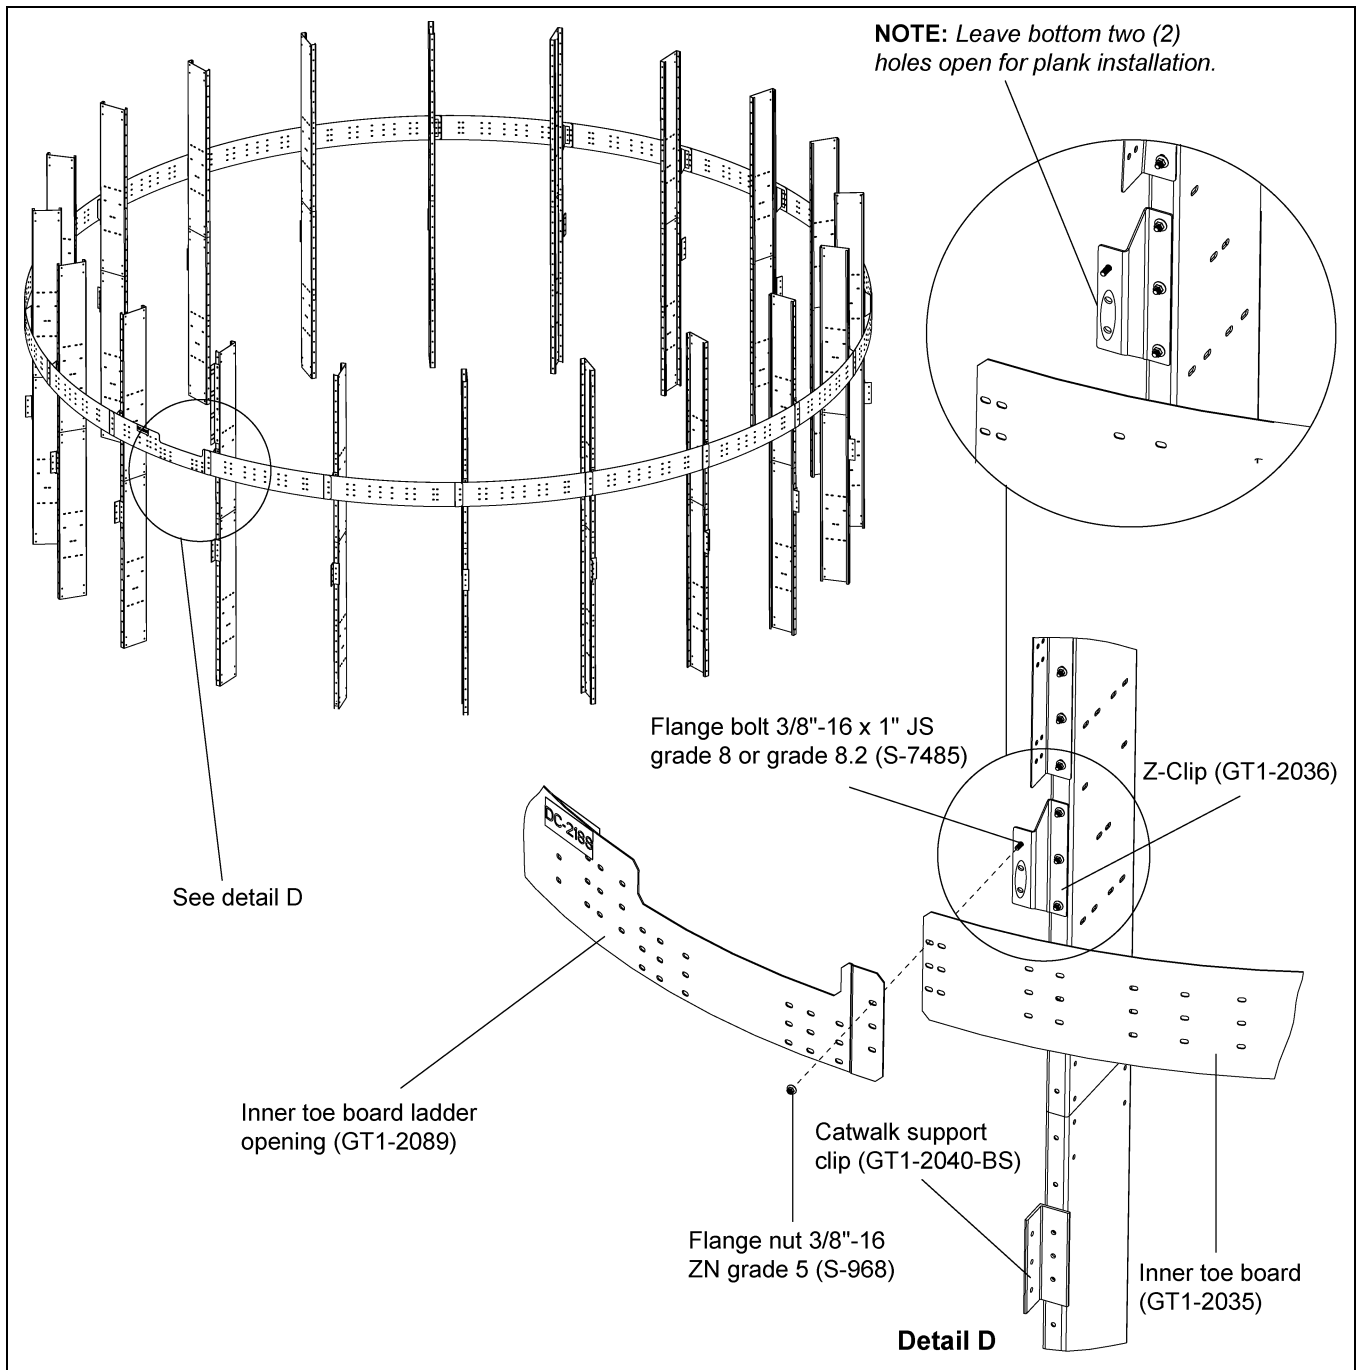
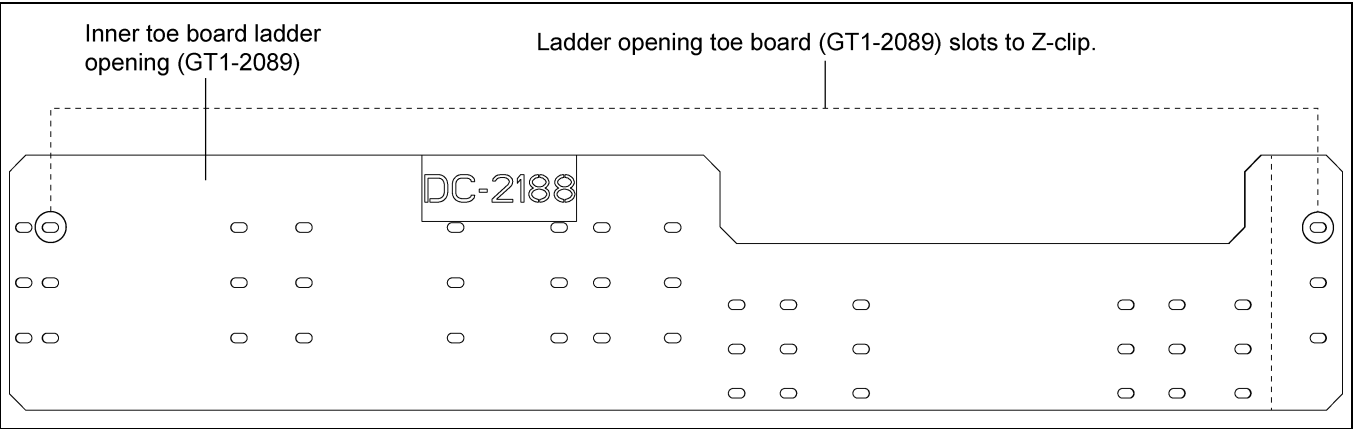

Figure 4G
Figure 4H 30' Ladder Opening Toe Board (GT1-2089)
1. Install the inner toe board (GT1-2035) to the Z-clips (GT1-2036). All toe boards should be installed between the Z-clips using 3/8"-16 x 1" JS grade 8 or grade 8.2 bolts (S-7485) and 3/8"-16 ZN grade 5 nuts (S-968). *(See Figure 4G.)*
2. At the ladder location, install the ladder opening toe board (GT1-2089) to Z-clips using 3/8"-16 x 1" JS grade 8 or grade 8.2 bolts (S-7485) and 3/8"-16 ZN grade 5 nuts (S-968) in such a way that toe board opening falls on the ladder path. *(See Figure 4G below and Figure 4H on Page 18.)*